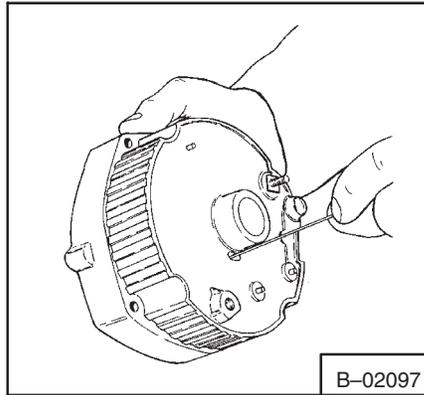

Fig. 6-24 Installing Brushes
24. Install the new brushes and put a straight wire through the housing to hold the brushes in the up position (Fig. 6-24).